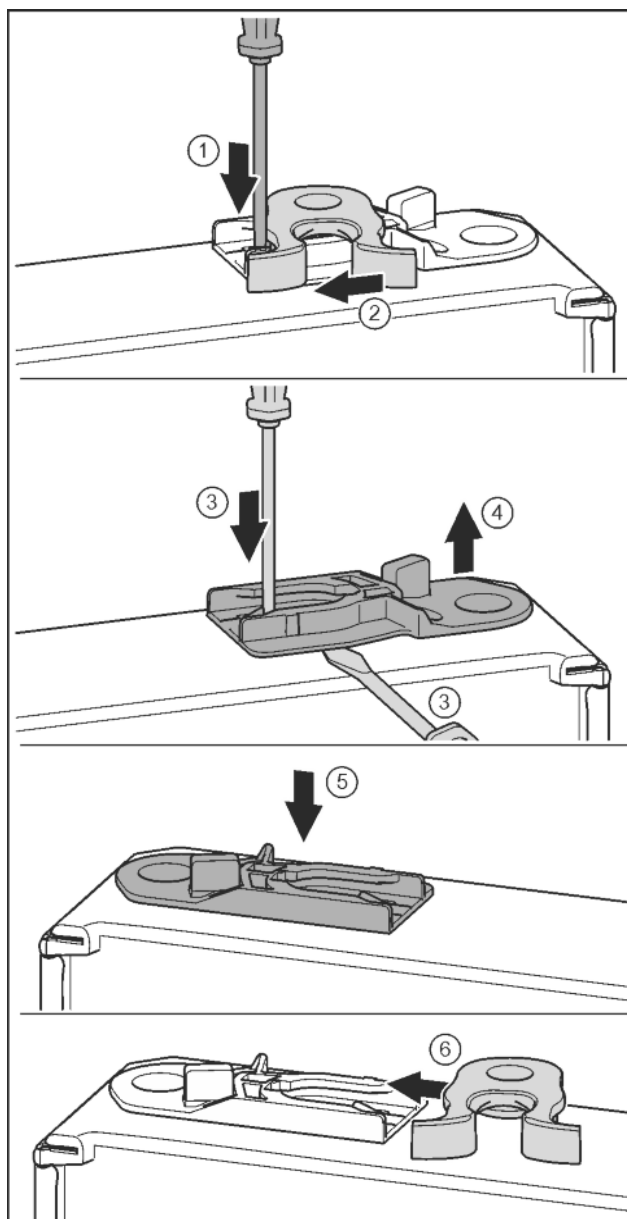

Fig. 20
- Push the tab downwards with a slotted screwdriver. Fig. 20 (1)
- Pull the door latch out of the guide. Fig. 20 (2)
- Pull out the guide bush: Press the tab with a slotted screwdriver and, at the same time, insert the slotted screwdriver under the guide bush. Fig. 20 (3, 4)
- Slide the guide bush included in the scope of supply to the other side of the housing. Fig. 20 (5)
- Push the door latch into the guide. Fig. 20 (6)